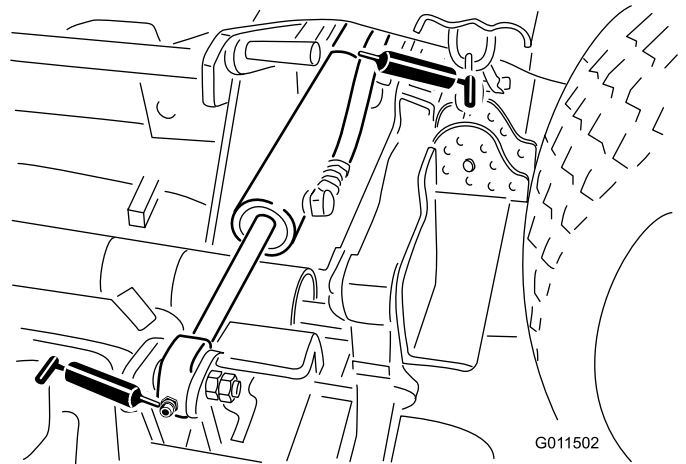

Figure 48
Wing lift cylinder (4) (Figure 48)